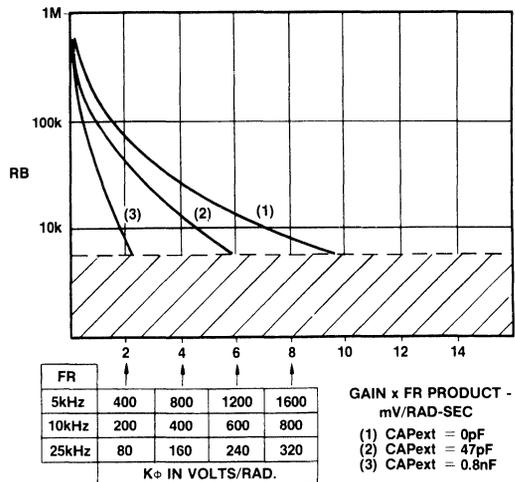

Fig.8  $R_B$  v. gain and reference frequency
$R_B$  and CAP should be chosen to give the required gain at the reference frequency used. Fig.8 shows that to achieve a gain of 380V per radian at 10kHz requires  $R_B$  to be approximately 39k $\Omega$ , CAP is zero. A hold capacitor (CH) of non-critical value which might be typically 470pF is connected from CH to  $V_{SS}$ . A smaller value is sufficient if the sideband performance required is not high.